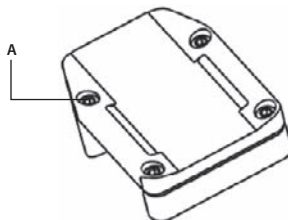

FIGURE 4-1. ADVANCED WIRELESS REMOTE CONTROL. BATTERY INSTALLATION
1. Using a screwdriver, unscrew the four screws (A, Figure 4-1) that affix the cover to the bottom of the unit. Remove the cover.
3. Replace the cover and retighten the screws (A).